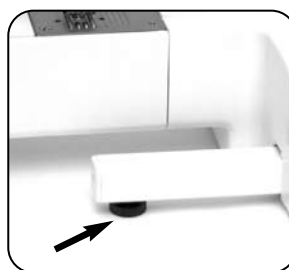

Fig. 7
1. Remove the free arm to access the screw under the leveling bar [Fig. 7].